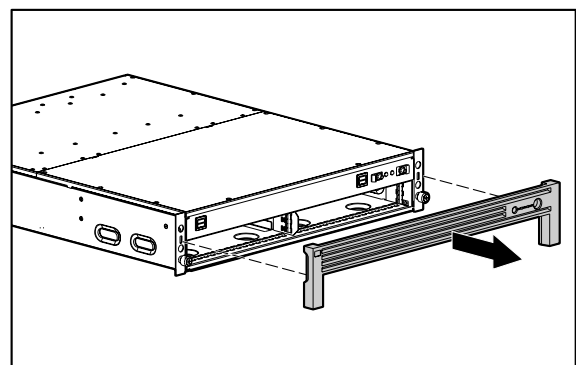

Figure 6: Removing the bezel
1. Remove the bezel by pulling it away from the front of the chassis as shown in Figure 6.